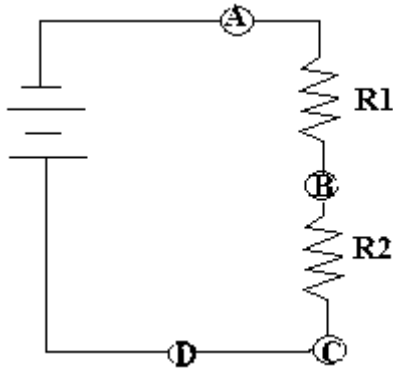

Figure 4-12 Circuit for exercise 3 and 4.
3. Consider the circuit shown in the above Figure 4-12.
4. Referring to the Figure 4-12, if you were to measure current where would you insert your meter?